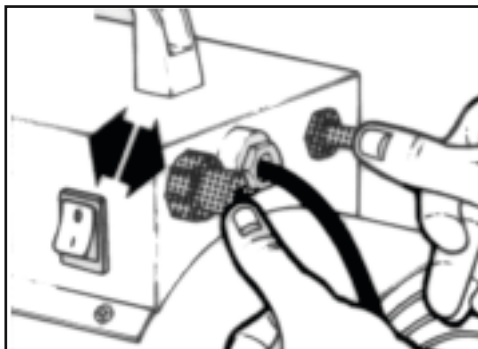

Fig.3
3. Press the gas button and, keeping it pressed, repeatedly press the electric piezoelectric lighter until flame is visible (see fig. 3).